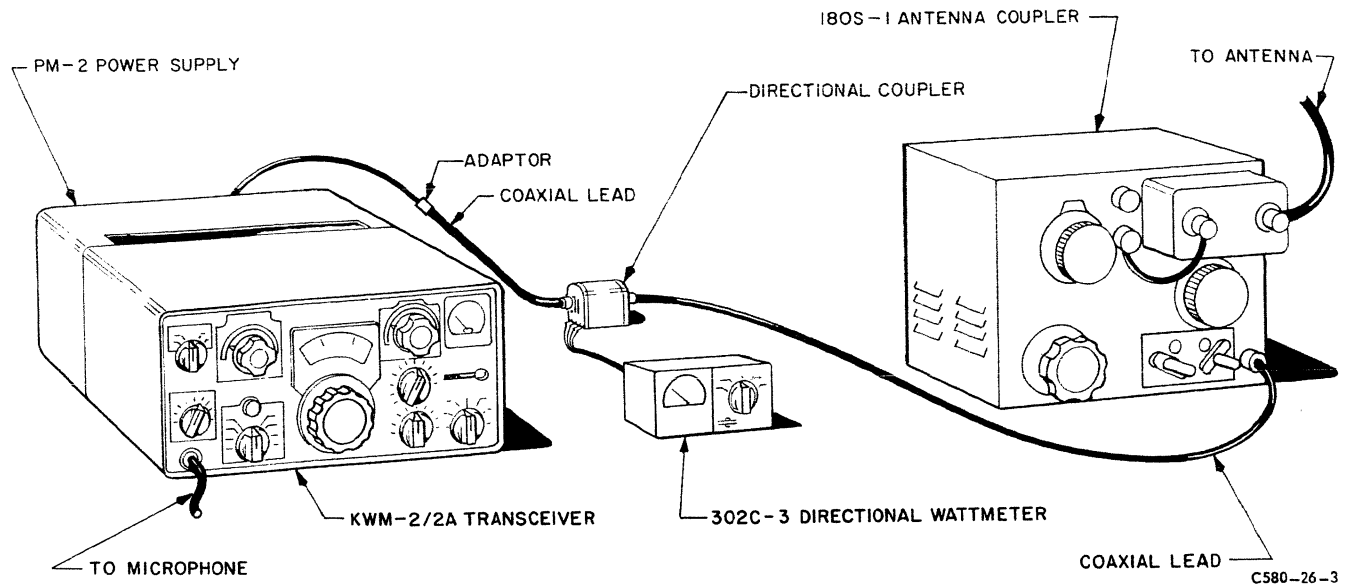

Figure 2. 180S-1 and KWM-2/2A Hookup Diagram
a. Connect KWM-2 Transceiver, 302C-3 Directional Wattmeter, and 180S-1 Antenna Tuner as shown in figure 2. If a transmitter other than that of the KWM-2 is used, connect in the same fashion, but be sure a directional wattmeter (or swr meter) having adequate power handling capacity is used. Leave the coaxial lead disconnected from the 180S-1 at this time.